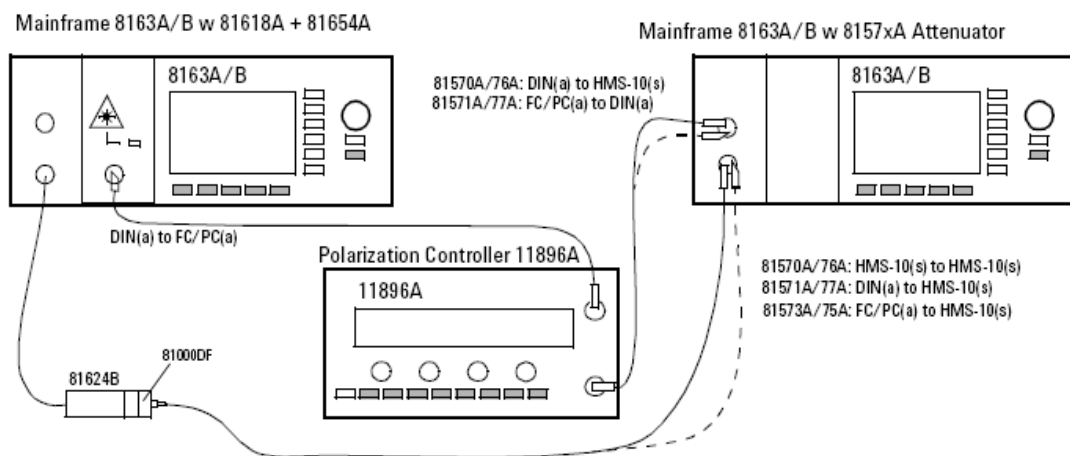

Figure 13 PDL Test Setup - Scanning Method for SM attenuators
- 3 Connect the equipment as shown in Figure 13